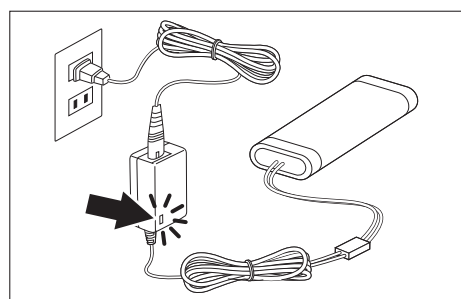

fig.2
- A red lamp on the charger turns on and this indicates that charging has been started. (fig.2)